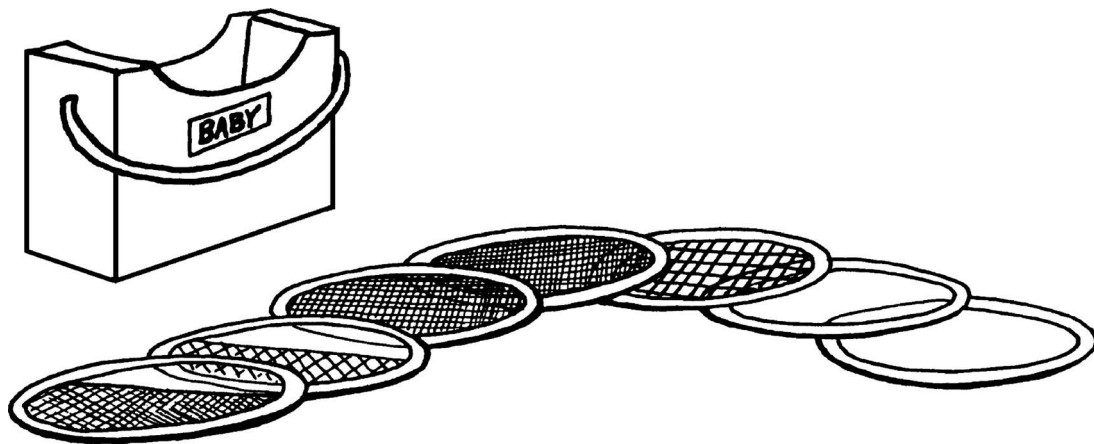

FIGURE 2.1
- Check that each light is complete. Each must have a full set of scrims, a scrim box or bag, and barn doors. Count the scrims. A complete five-piece set includes two doubles, one single, one half double, one half single, and one set of gel frames (Figure 2.1).